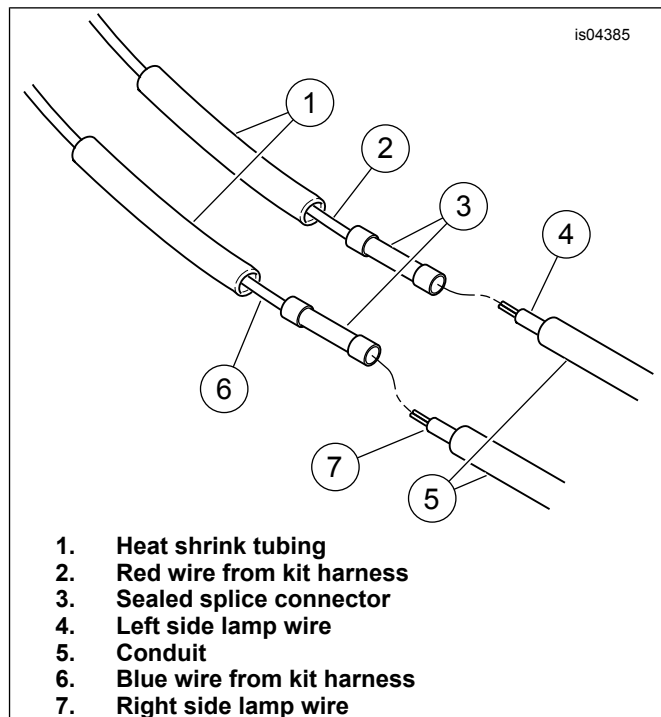

Figure 7. Connect Lamp Wires to Kit Harness
18. See Figure 7. Slide heat shrink tubing (1) from the kit over the blue wire on the pursuit lamp harness. Crimp the sealed splice connector (3) to the blue wire using a Crimp Tool (38125-8). Bring the right side pursuit lamp wire to the connector and trim the wire, allowing approximately one inch (25 mm) of the wire to extend past the sealed splice connector. Trim the conduit (5) approximately 1-1/2 inch (38 mm) back from the end of the wire.
20. Insert the end of the right side lamp wire into the sealed splice connector (3). Use the Crimp Tool to crimp the wires to the sealed splice connector.